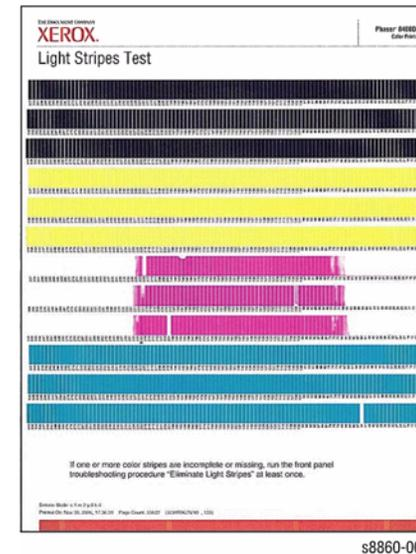

Figure 1 Massive Jet Loss Example
- Massive jet loss in one or more colors. Figure 1 is an example of massive jet loss